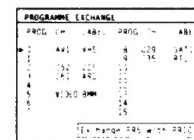

Fig. 14.
- 3 Select Programme Exchange with \rightarrow or \leftarrow and press OK. The PROGRAMME EXCHANGE menu appears. (See Fig. 14.)